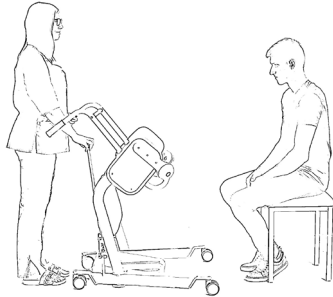

Fig. 1
- 3 Adjust the flexible base of the Mover – Flexi/Mobi Pro Flexi, if needed, and approach the client. (See Fig. 1.)